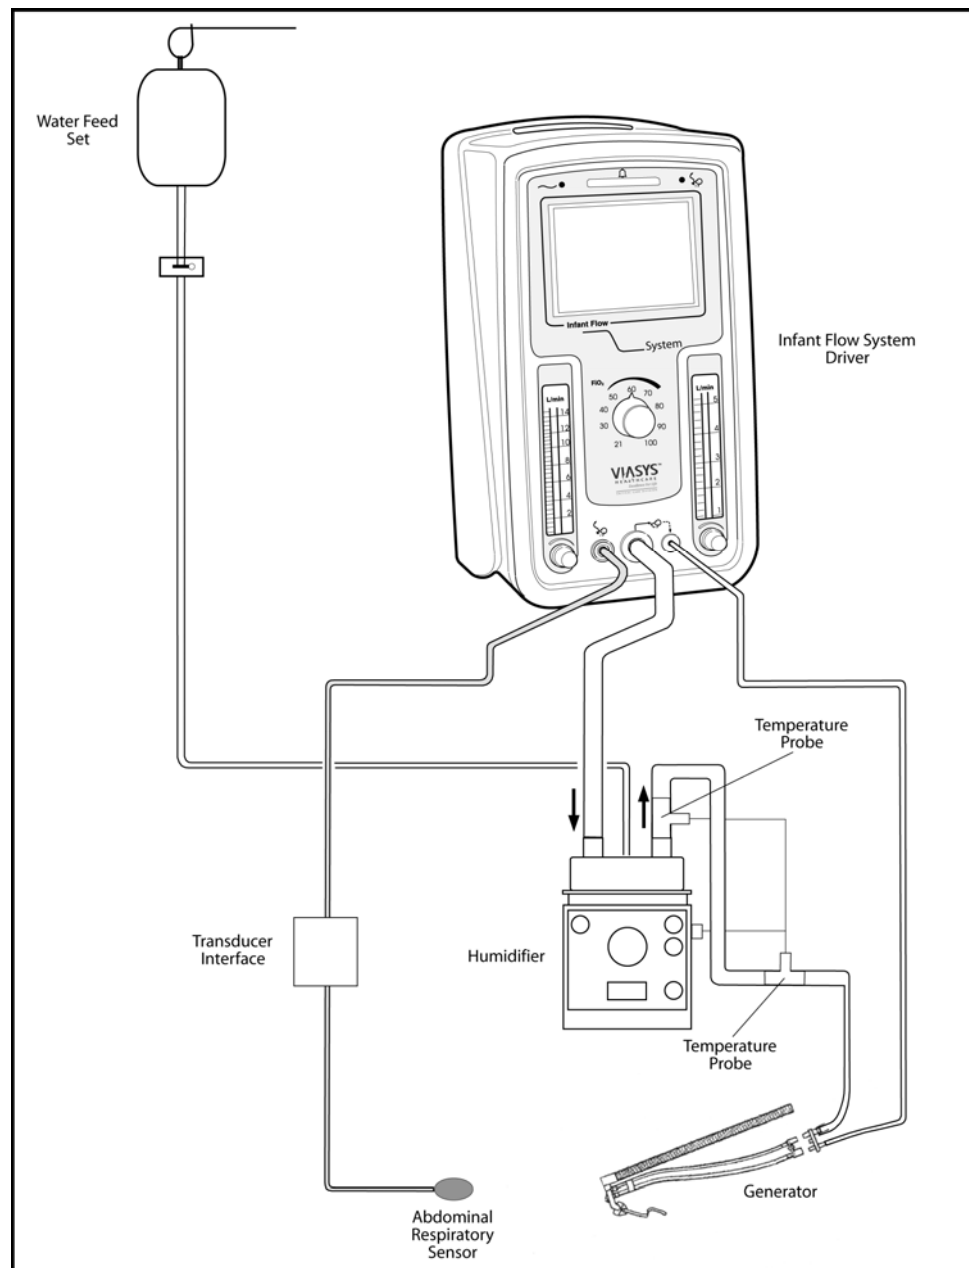

Figure 3 – Driver assembled with patient circuit and /humidifier
1. Connect the Transducer Assembly to the front panel of the driver (Fig. 3)
1. Have the patient circuit and generator assembled as shown in Fig 3.
1. Make appropriate connections for air and O2 gas supply. Connect power cord to appropriate AC outlet. Attach patient circuit, generator and patient interface (mask or prong) as shown in Figure 3. Occlude the opening to the patient.